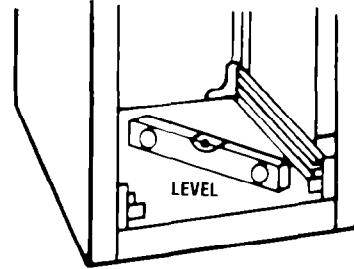

FIGURE 11
5. After the opening has been prepared, level the compactor by adjusting the four leveling screws. Level unit left to right and front to back. See Figure 11.